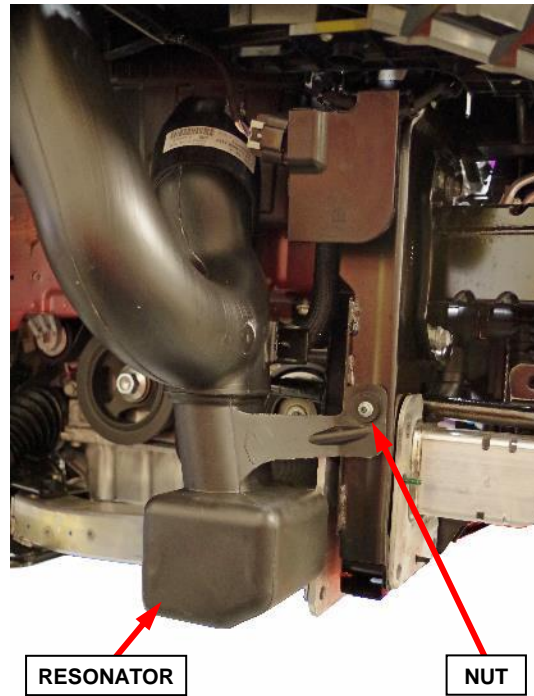

Figure 27 – Air Intake Resonator
- 32. **If applicable:** Remove the nut securing the air intake resonator to the vehicle and position out of way (Figure 27).